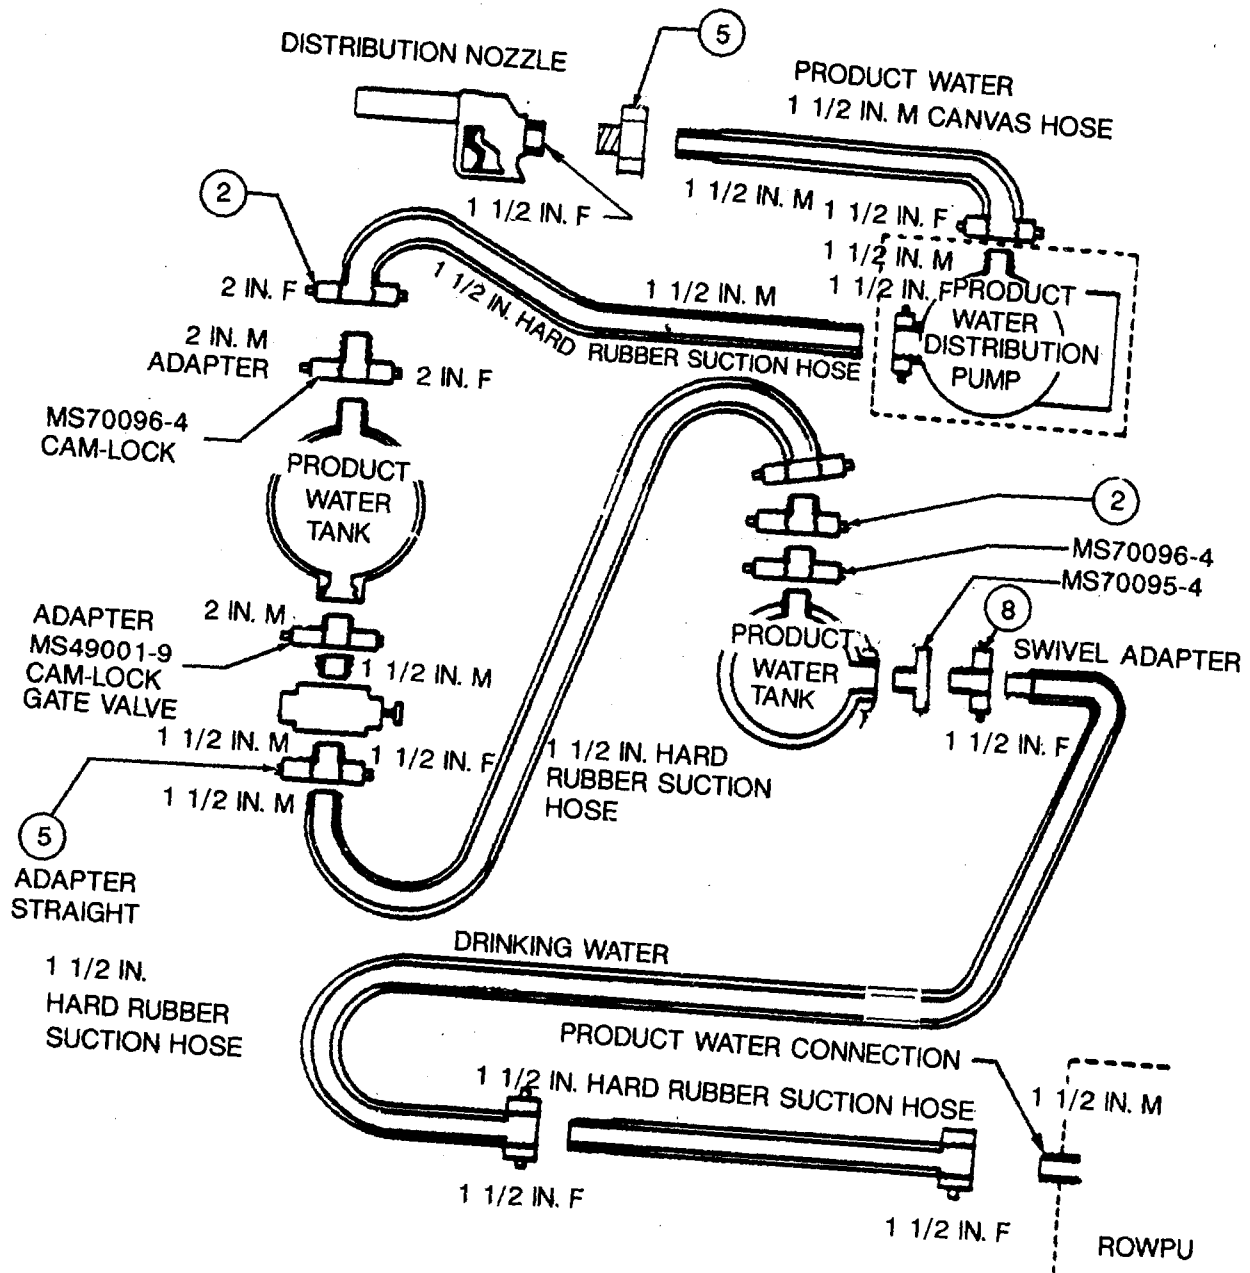

Figure 2-35. Product Water System
s. Attach product water systems hose (fig. 2-35), working backwards from the distribution nozzle until last connection is made at the ROWPU. Make sure pump drain valve is closed.